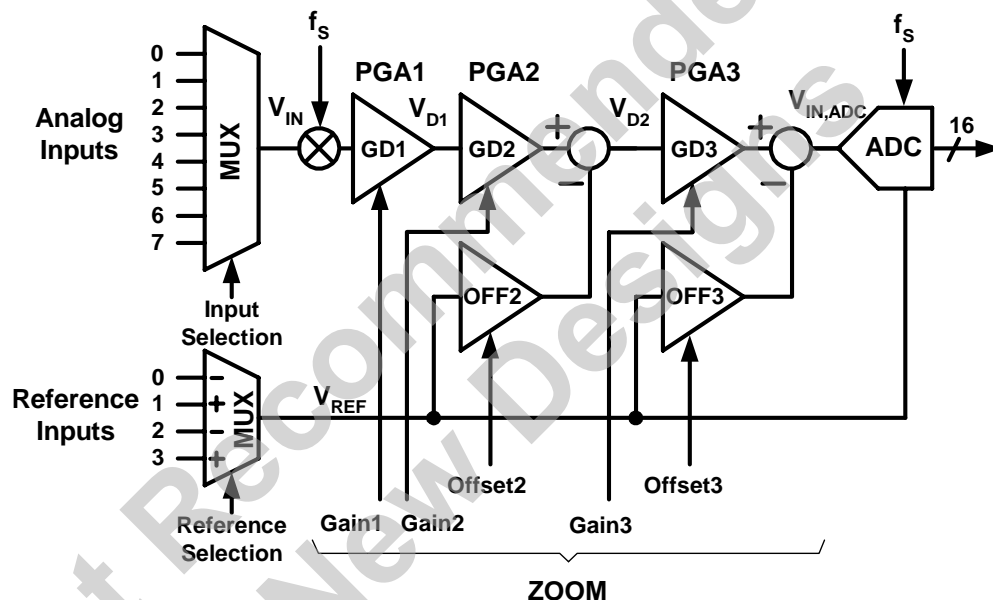

Figure 16-1. ZoomingADC™ general functional block diagram
Figure 16-1 shows the general block diagram of the acquisition chain (AC). A control block (not shown in Figure 16-1) manages all communications with the CoolRisc™ microcontroller.